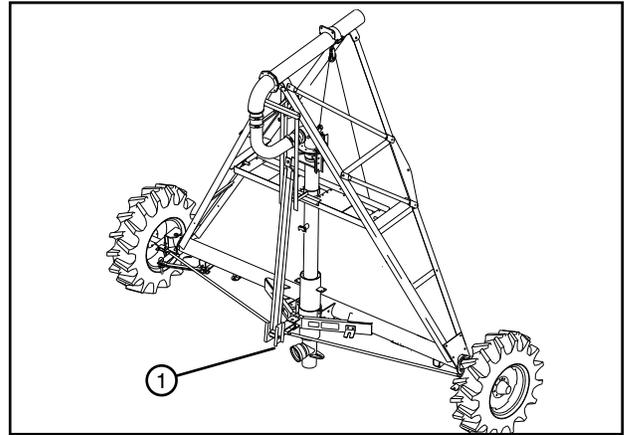

Figure 39-1 1. Riser Pipe
8. Disconnect the water supply line from riser pipe. See figure 39-1.